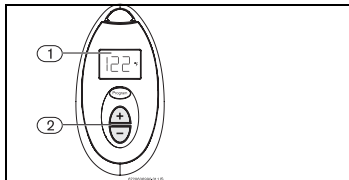

Fig. 11 Temperature adjustment
- ▶ Press the buttons  or  on the remote control (Fig. 11, pos. 2) until the required temperature
appears on the remote control display (Fig. 11, pos. 1).